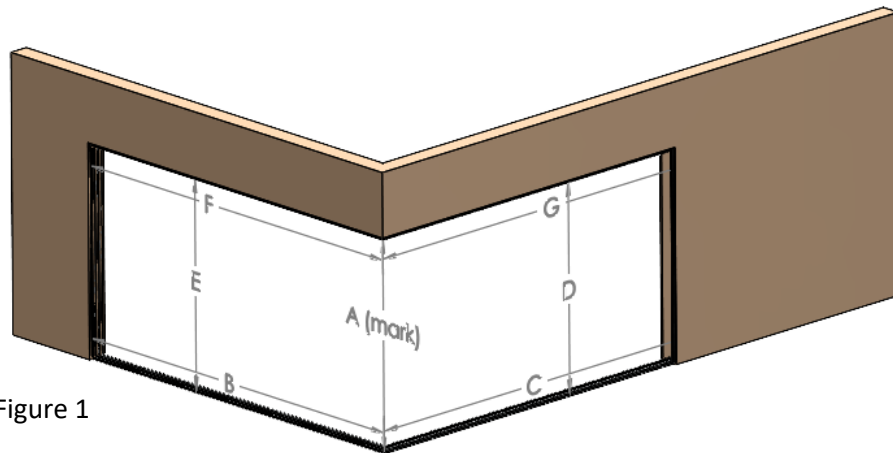

Figure 1
8. To ensure the frame will be installed plumb, level, and square, measure and mark the rough opening. To do this, it is a good idea to lay out the sill tracks (Part #16a, 16b) as shown in figure 1. Mark the rough opening at the desired location of the 90-degree corner of the frame (top and bottom). This marking is critical, as will be used to position the corner joint of the frame where the panels will meet. Use a laser or torpedo level to ensure the head track (Part #14) lines up exactly above the sill track. For reference, the head and sill tracks are the same width.
9. Join the mitered corners of the head and sill using sealant, 90 degree L-Brackets (Part #12), and screws (Part #30). Start by applying sealant to the mitered faces of the tracks and join components. Note that the brackets are countersunk, so orient them accordingly. There should be one bracket per track. L-brackets should be centered over the thermal break, so that the screws go through the thermal break (Figure 1 & 2).